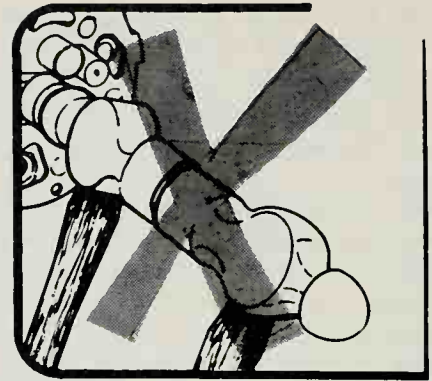

Figure 2-8. Never hammer on a hardened surface, such as another hammer. (*Snap-On Tools Corp.*)
7. Never strike a hardened-steel surface with a steel-headed hammer, and never strike any hammer with another hammer (Figure 2-8). Hardened steel is brittle and will splinter into steel particles that could easily put out an eye or inflict some other wound. Wear eye protection when hammering.